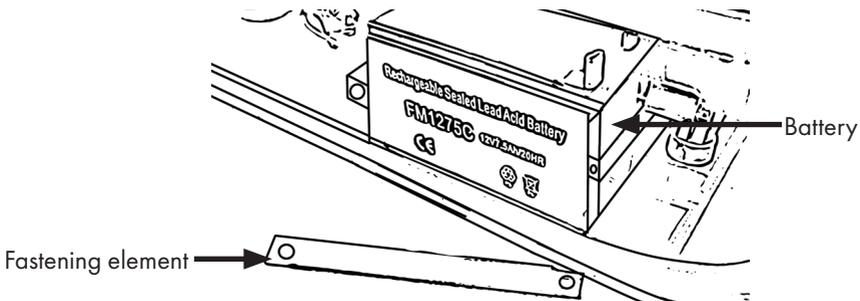

Figure 12
- First insert the battery as shown in Figure 12 and secure it with the screws on the front.